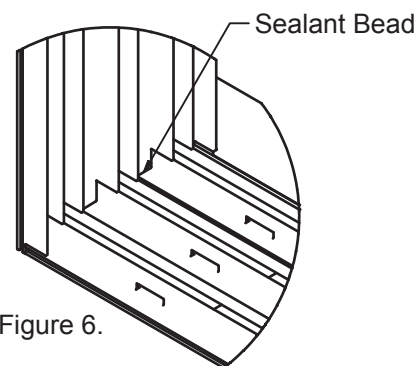

Figure 6.
**Step 9. (Frame Corner Sealant)** Once all installation screws have been properly installed, apply a bead of sealant and tool at both frame sill to frame jamb joints (See Figure 6).